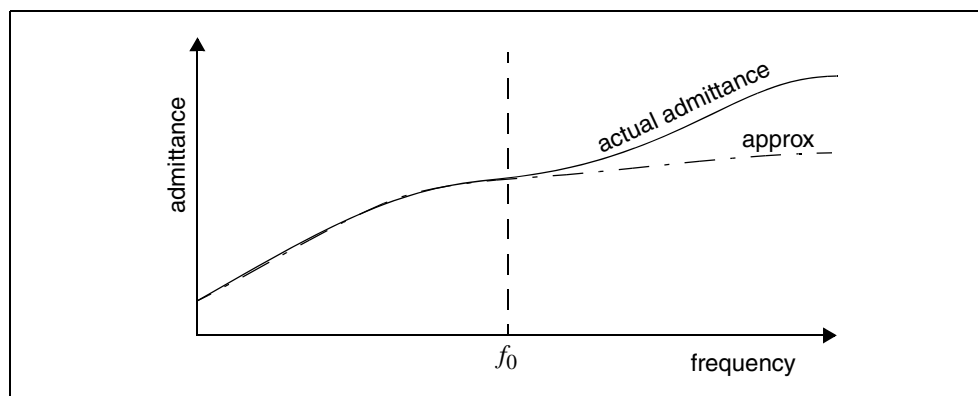

Figure 179 Multiport Admittance vs. Frequency
- The amount of reduction depends on the f_0 upper frequency, the threshold frequency where `SIM_LA` preserves the admittance. This is shown in Figure 179.